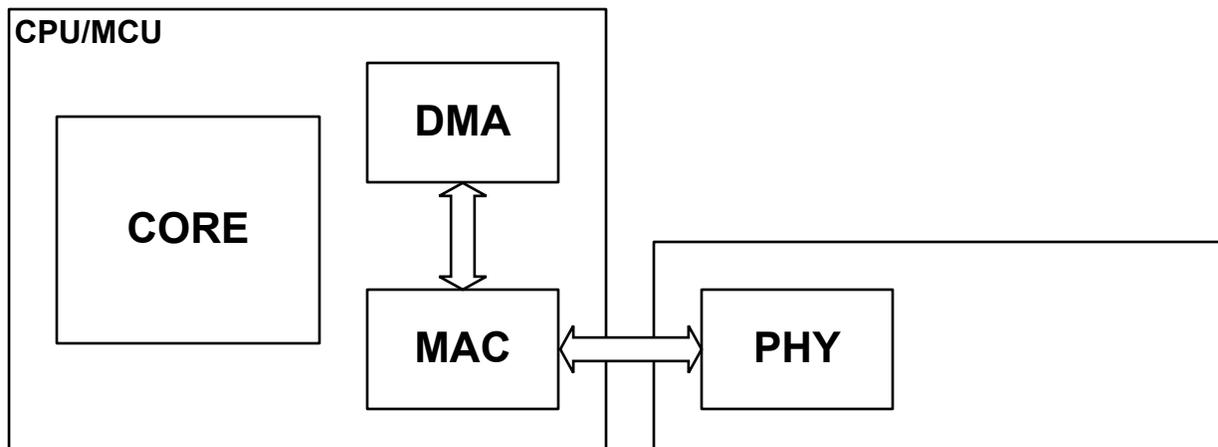

Figure 1-3. CPU With Integrated MAC
2. CPU with integrated ethernet MAC, PHY is external (see Figure 1-3).